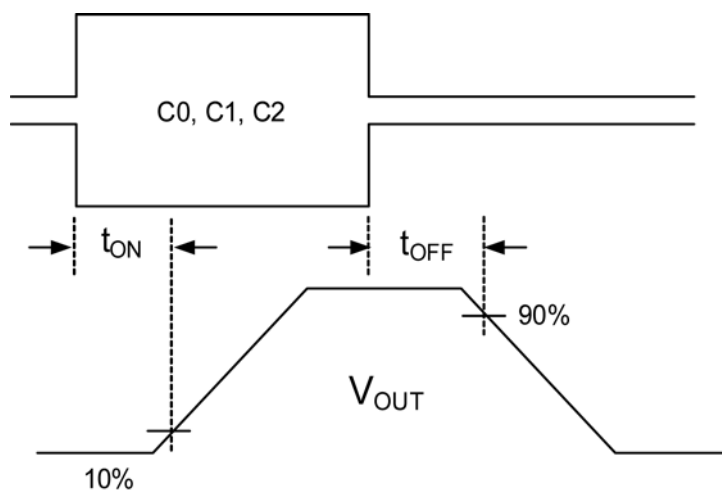

Figure 1. Turn-On and Turn-Off Delay
5. $R_L = 10\Omega$, $C_L = 1\mu\text{F}$, See Figures 1, 2.
8. $R_L = 100\Omega$, $C_L = 0.1\mu\text{F}$, See Figures 1, 2